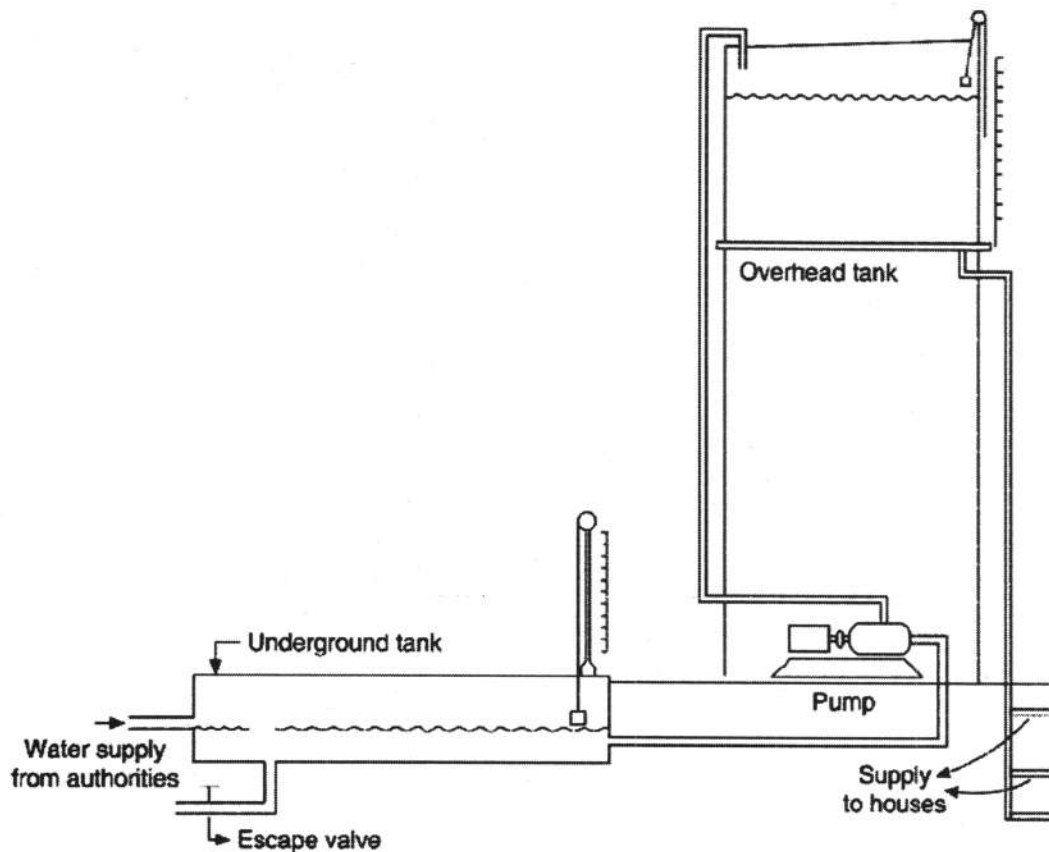

Figure 2
3. Consider a task of designing an automation system for water supply for a residential colony as shown in Figure 2. There are two tanks, an underground tank and an overhead tank. The water from the Municipal Water Supply Authority of the city comes to the underground tank through gravity and later it is pumped to an overhead tank using a pump-motor set.